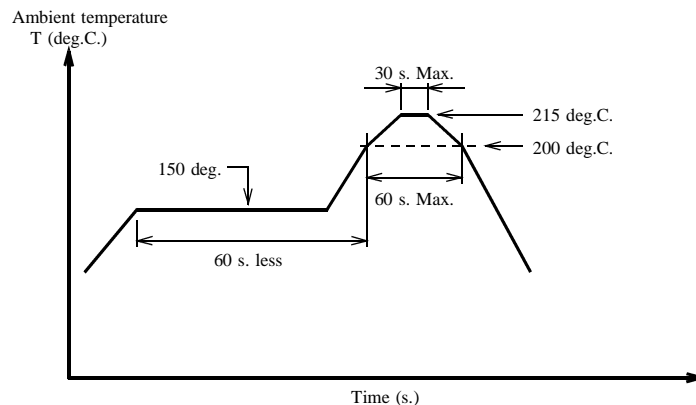

Fig.5-2. Temperature Profile
- (1) The recommended solvent is Fluorinate FC-70 or the equivalent.
- (2) The ambient temperature must be 215 degrees centigrade for no longer than 30 seconds or 200 degrees centigrade for no longer than 60 seconds.
- (3) A recommended temperature profile for V.P.S. is shown in Fig. 5-2.